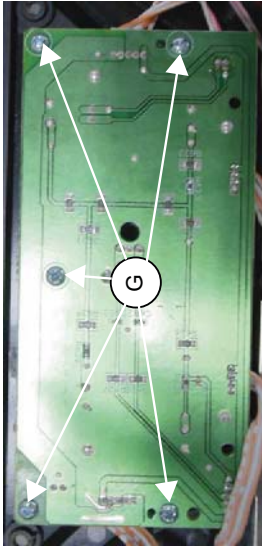

Figure 6
- 1) Loosen 5 screws "G" on the top of Key & VOL Board as shown in figure 6.